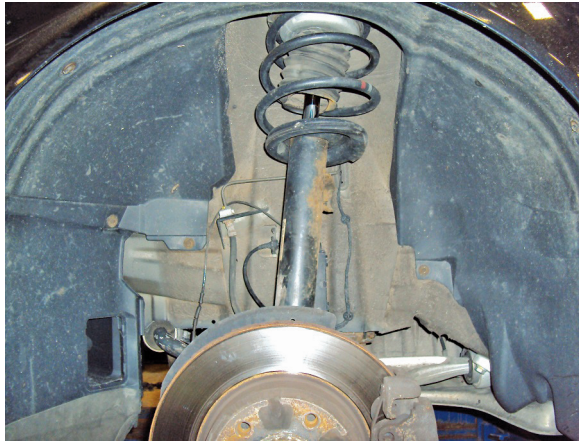

fig. 2
2. Remove the front wheel and support the hub assembly (Fig. 2).